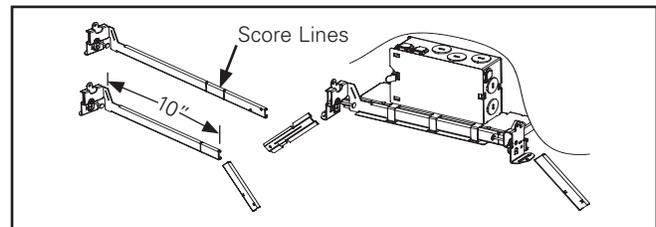

Figure 5.
- Maximum ceiling thickness is 2" with the appropriate plaster frame collar installed. For 10" spacing, the bar hanger can be shortened by breaking them at score lines (Figure 5.).